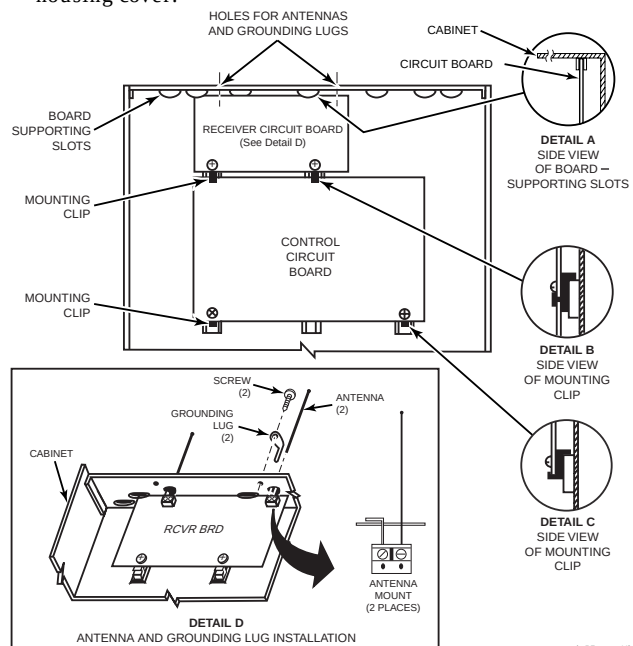

Figure 2. Installing the 5883 Board in the Control's Cabinet
Mounting inside the control's cabinet (refer to Fig. 2):
3. Hang two *short* (black) mounting clips (provided) on the raised cabinet tabs in the cabinet, as shown in Detail B of Figure 2.
2. Insert the top of the board into the supporting slots at the top of the cabinet (see Detail A, Figure 2).